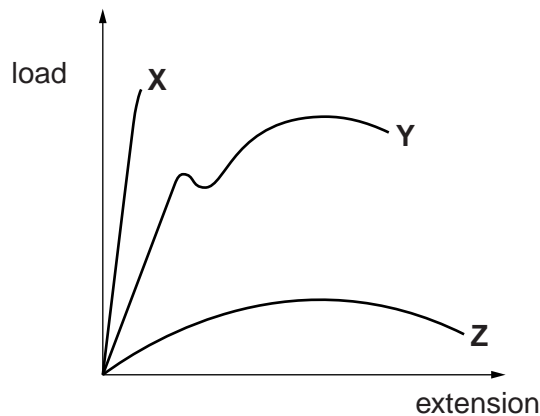

Fig. 4
- 6 Fig. 4 shows the load/extension diagram for three different materials.
- (a) Describe the specific information that can be obtained from Fig. 4 about materials **X**, **Y** and **Z**. [6]